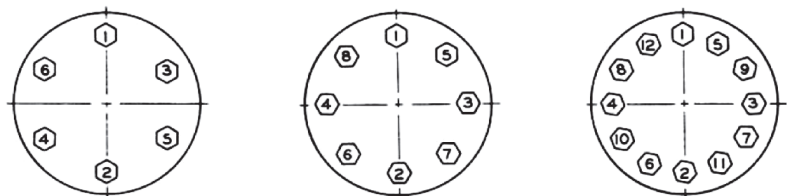

Figure 10
**Refer to Figure 10 for proper bolt torque and tightening sequence specifications. Additionally the plug must be stroked manually while evenly tightening the body stud nuts (11) around both bonnet and bottom flange to ensure proper alignment and prevent binding between the plug guides and the bushings.**
- F. Insert packing (17) and packing spacer (18).
- G. Install packing follower (19) and packing flange (3).
- H. Install packing flange stud nuts (2).